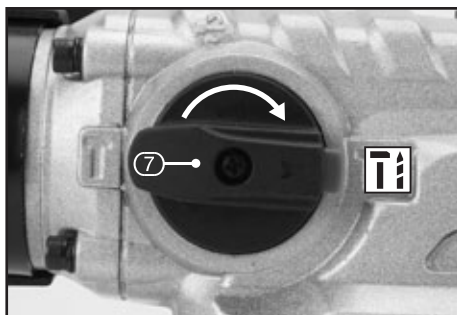

FIG.4
9.2 ROTARY DRILLING – FIGS.4 – 5
- Rotate the drilling/chiselling selector (7) to the hammer and drill setting.
- Switch the rotary/hammer selector (5) to the drill setting.